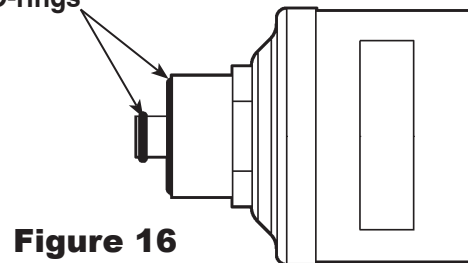

Figure 16
5. Refer to Figure 16 while examining the new filter. Verify both o-rings are lubricated, correctly located in the grooves as shown, and not damaged. (The o-rings have been lubricated with ISO6743-3 DVA / DVC oil.)